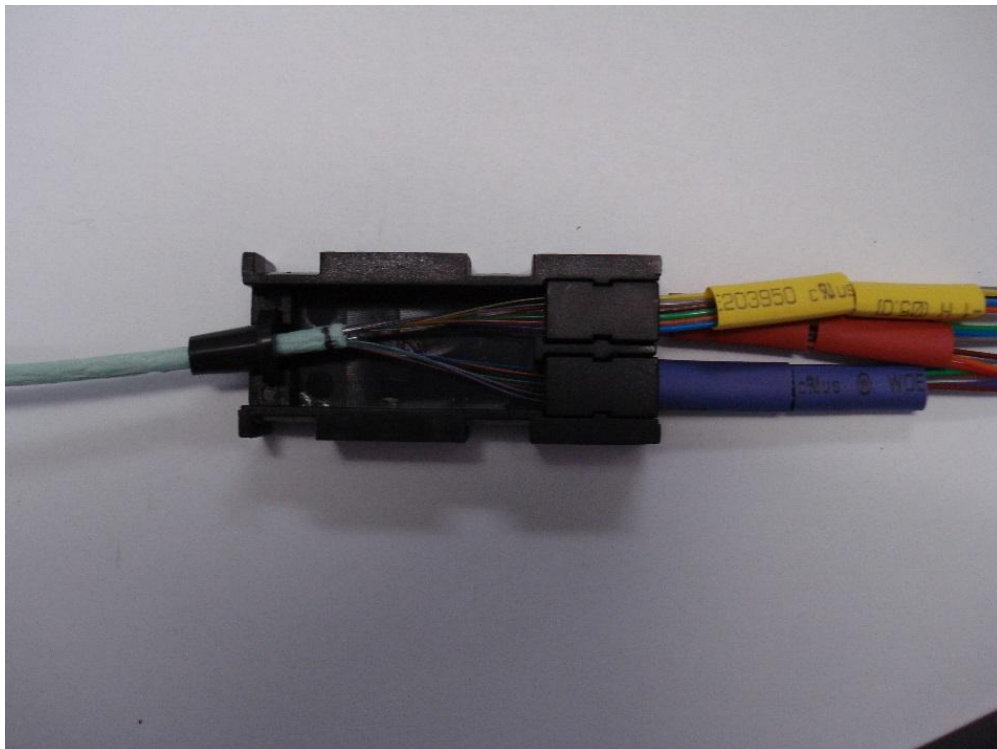

Figure 5
7.5 Install the blocks in position # 1-3 and the blank block in to position 4. **see Fig 5.**